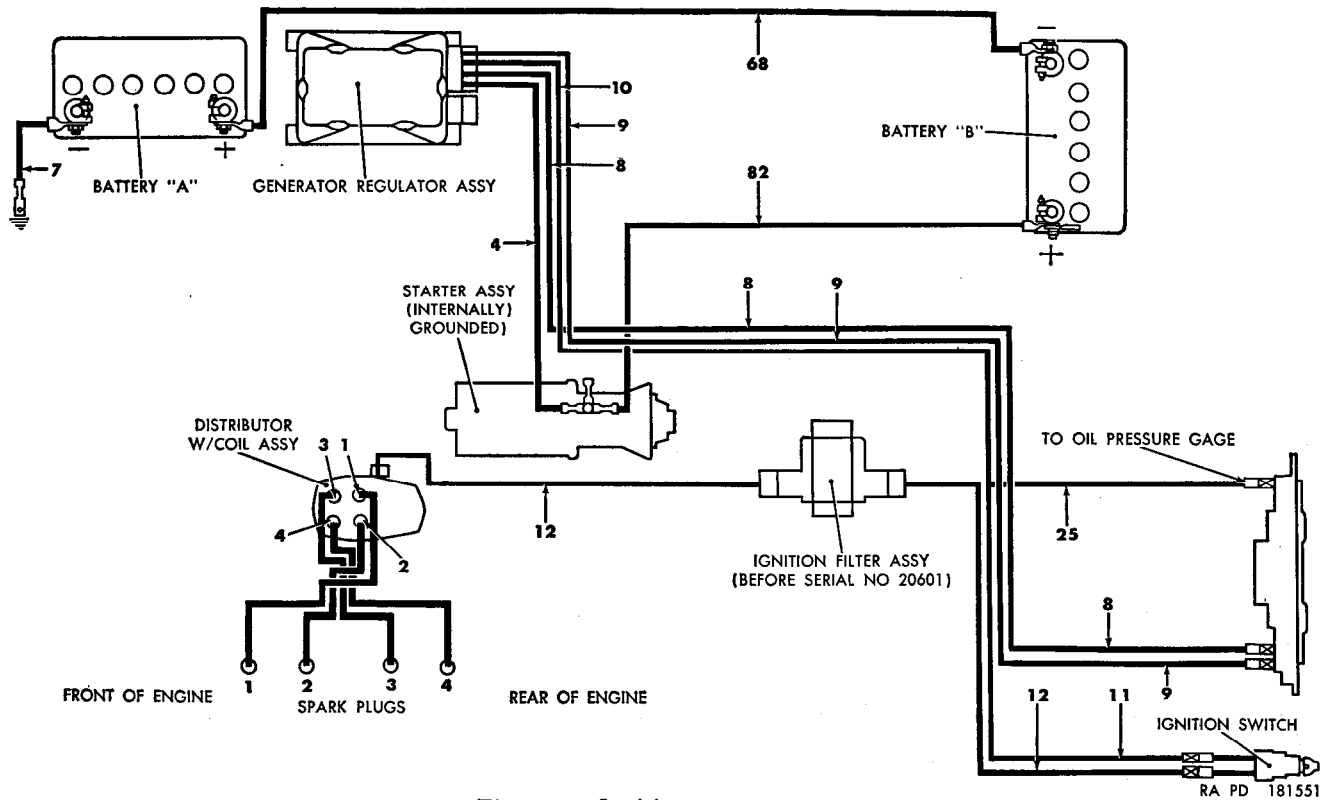

Figure 54. Ignition system circuit.
- (1) *General.* The ignition system (fig. 54) consists of the batteries, ignition switch, distributor with coil assembly, spark plugs, and primary and secondary circuit cables. The distributor with coil assembly supplies high voltage current to the spark plugs at timed intervals. The entire system is shielded for radio interference suppression and is completely waterproofed.
- (5) *Circuits* (fig. 54). There are two distinct circuits in the ignition system, the primary circuit and the secondary circuit. The primary, or low voltage circuit, consists of the batteries, ignition switch, distributor points, capacitor, and the primary winding of the ignition coil. The secondary, or high voltage circuit, consists of the secondary winding of the ignition coil, distributor rotor, distributor cover assembly, distributor cap assembly, spark plug cable assemblies, and spark plugs.
- (2) *Installation.* Place the rotor on top of the cam, with the flat spot in the bore of the rotor alined with the flat spot on the cam. Press the rotor into place by hand. Do not hammer on top of the rotor. Install the distributor cover and cap assemblies (par. 142f).
e. Ignition Filter Assembly (fig. 54).
- (1) Mark the spark plug cable assemblies for identification at installation.
- (2) Unscrew the terminal nuts securing the spark plug cable assemblies to the distributor cover assembly, and disconnect the cable assemblies.
- (3) Unscrew the nut securing the distributor-to-carburetor air intake pipe vent line assembly to the connector on the distributor, and pull the line from the connector. Unscrew the connector. Unscrew the nut securing the distributor-to-windshield wiper fitting vent line assembly to the elbow and pull the line from the elbow. Unscrew the elbow.
- (4) Unscrew the nut securing cable No. 12 (fig. 54) to the wiring harness filter receptacle assembly, and disconnect the cable.
- (5) Remove the mounting clamp screw and flat washer securing the distributor with coil assembly to the spark advance control arm, located under the distributor. Remove the distributor by lifting up and toward the right side of the vehicle. Do not lose the spark advance control arm thrust washer located between the distributor and the spark advance control arm.